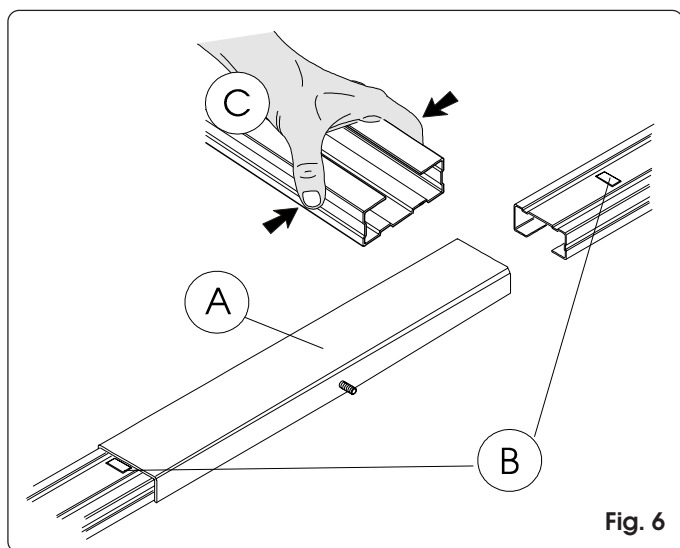

Fig. 6
- 1) Assemble the two parts of the sliding guide, inserting them in the central joint (fig. 6 ref. A) up to the metal reference stops (fig. 6 ref. B). To facilitate fitting the sliding guide, insert it in the central joint, compressing it as shown in Fig. 6 ref. C. Do not use tools which could deform the guide or the joint.